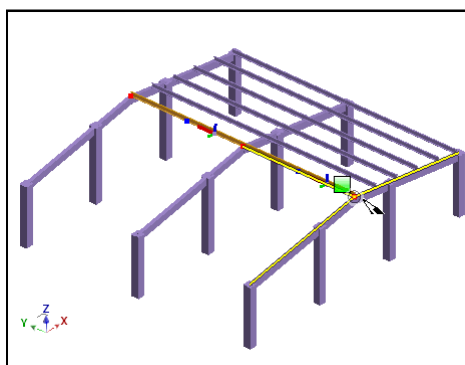

Figure 83: Specifying the first coordinate
- Snap to the top of a beam and click (Figure 83).